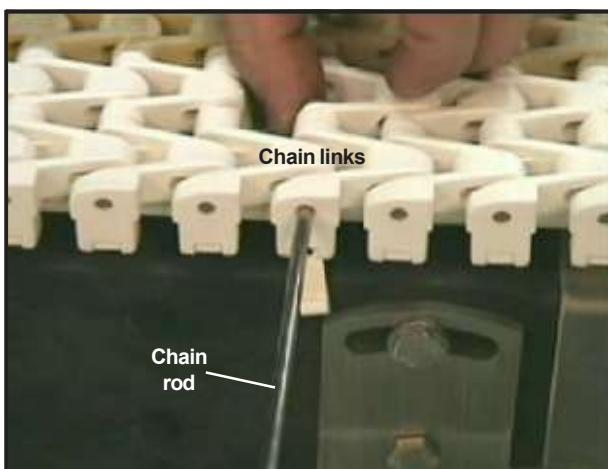

Figure 31: Insert chain rod through links
- If the first roll of chain does not reach the drive end of the conveyor, push it ahead and load another roll of chain. After the second roll of chain has been loaded, join the two sections with a chain rod and install the chain lock tabs (refer to *Figures 31 and 32*, on page 31).
- Feed the chain around the drive by either (A) pulling the end of the chain around, or (B) rotating the drive shaft by hand. DO NOT push the chain into the drive sprocket(s) as the compressed chain will not engage the sprocket(s) properly. If done correctly, the chain will feed smoothly.
- Insert the chain rod on one side, and reconnect each link as you push the rod through (Figure 31).